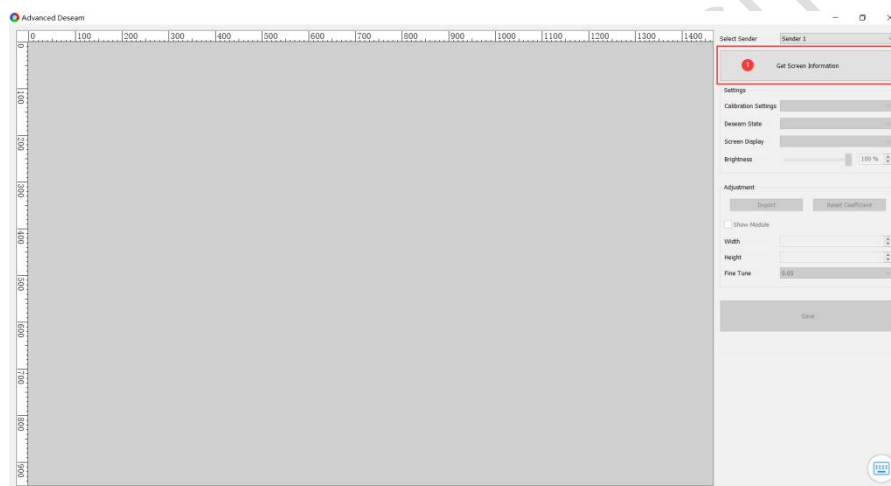

Fig 16.1 Get screen information
Step 1: Open the **Advanced Deseam** interface and click **Get Screen Information**, as shown in Fig 16.1.